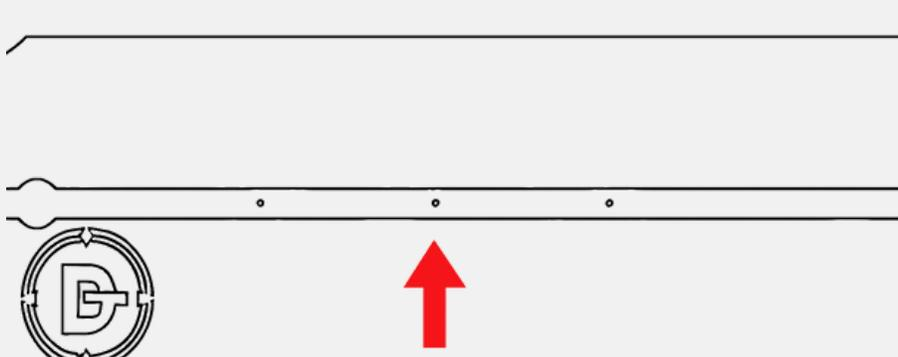

FIG 3
- (Side Panel) Use the supplied Mounting Guide to help ensure correct alignment. (As Shown in Fig. 3 & 4)